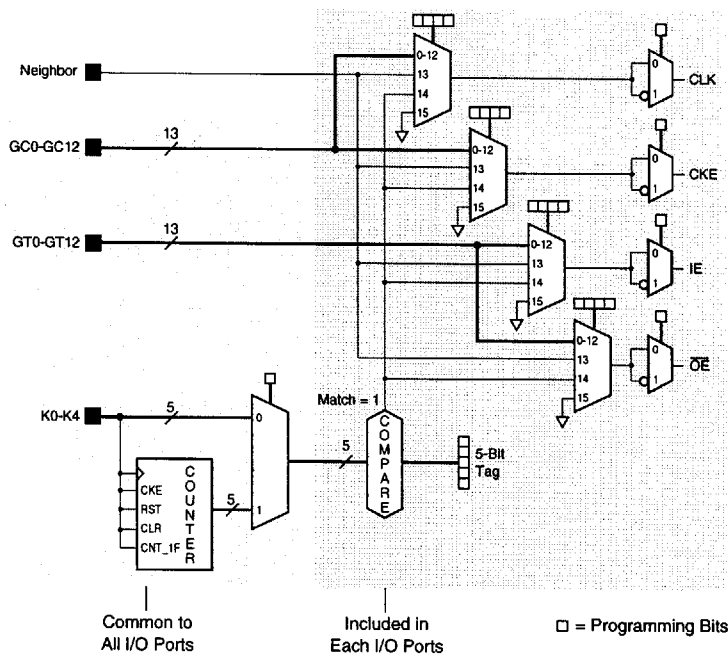

Figure 6: I/O Control
The IQX family has a structure that gives the user a lot of flexibility in controlling the behavior of each I/O Port. As shown in Figure 6 and described below, Clock (CLK), Clock Enable (CKE), Input Enable (IE) and Output Enable ($\overline{OE}$) signals for each I/O Port can be selected from multiple sources. The control polarity can also be individually selected.
The Key Control feature on the IQX devices allows the user to encode mutually exclusive control signals for use as I/O control signals. The Key pins, K0 through K4 are shared with I/O Ports. This feature, shown schematically in Figure 6, works as follows:
When the device is reset all I/O Ports are set to the default configuration of flow-through input (IN). This is achieved by setting the 16-to-1 muxes shown in Figure 6, to select input 15 (V_{ss}); while the 2-to-1 muxes used for polarity selections are set to select non-inverted value for Clock (CLK) and Clock Enable (CKE), and inverted value for Input Enable (IE) and Output Enable ($\overline{OE}$).